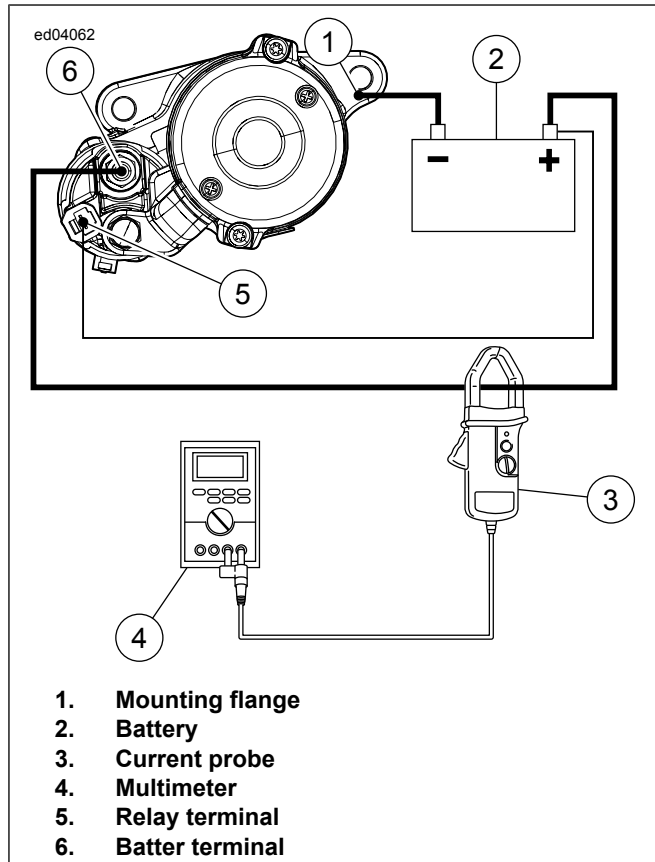

Figure 3-10. Free Running Current Draw Test
2. See Figure 3-10. Attach one heavy jumper cable (6 gauge minimum).